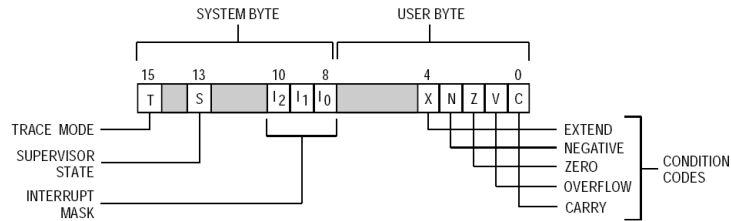

Figure 16.1: The flags or status bits of the status register (from [5])
MC68000 has only two more special-purpose registers. The first is the program counter (PC) which contains the address of the next instruction to be executed. The second is a 16 bits wide register called the status register (SR), shown in Figure 16.1. Its eight most significant bits are called the system byte and stores the processor status, such as a supervisor/user mode bit and interrupt information. The system byte is only used by programs running in supervisor mode, such as the operating system. The other eight bits contain the condition codes that indicate the results of previous arithmetic and logical operations, such as carry and overflow information [1, 4].